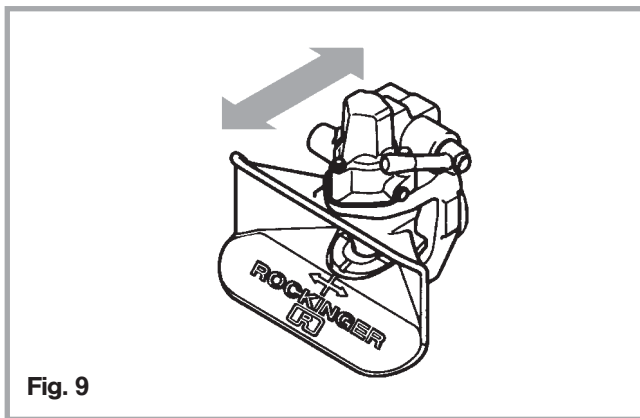

Fig. 9
- Grip coupling head (not jaw funnel) with both hands when uncoupled and move vigorously in longitudinal direction (see fig. 9):